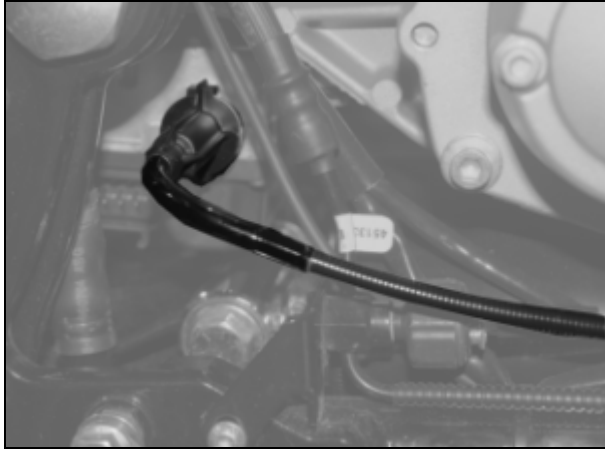

Figure 6. Cruise Control Cable from Module
12. See Figure 6. Route cruise control cable along lower frame tube until it is below the cam position sensor cover. From that point forward follow clutch cable routing up to the point where the clutch cable retaining ring attaches to frame on left side of bike.